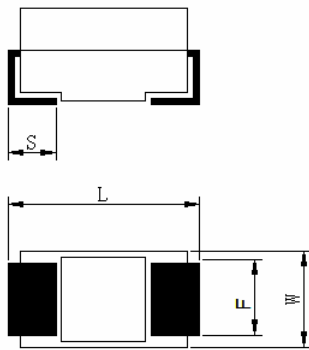
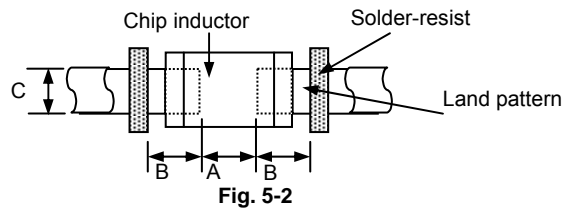

Fig.5-1
Fig. 5-2
- a) Dimensions and recommended PCB pattern for reflow soldering: See Fig.5-1, Fig.5-2 and Table 5-1